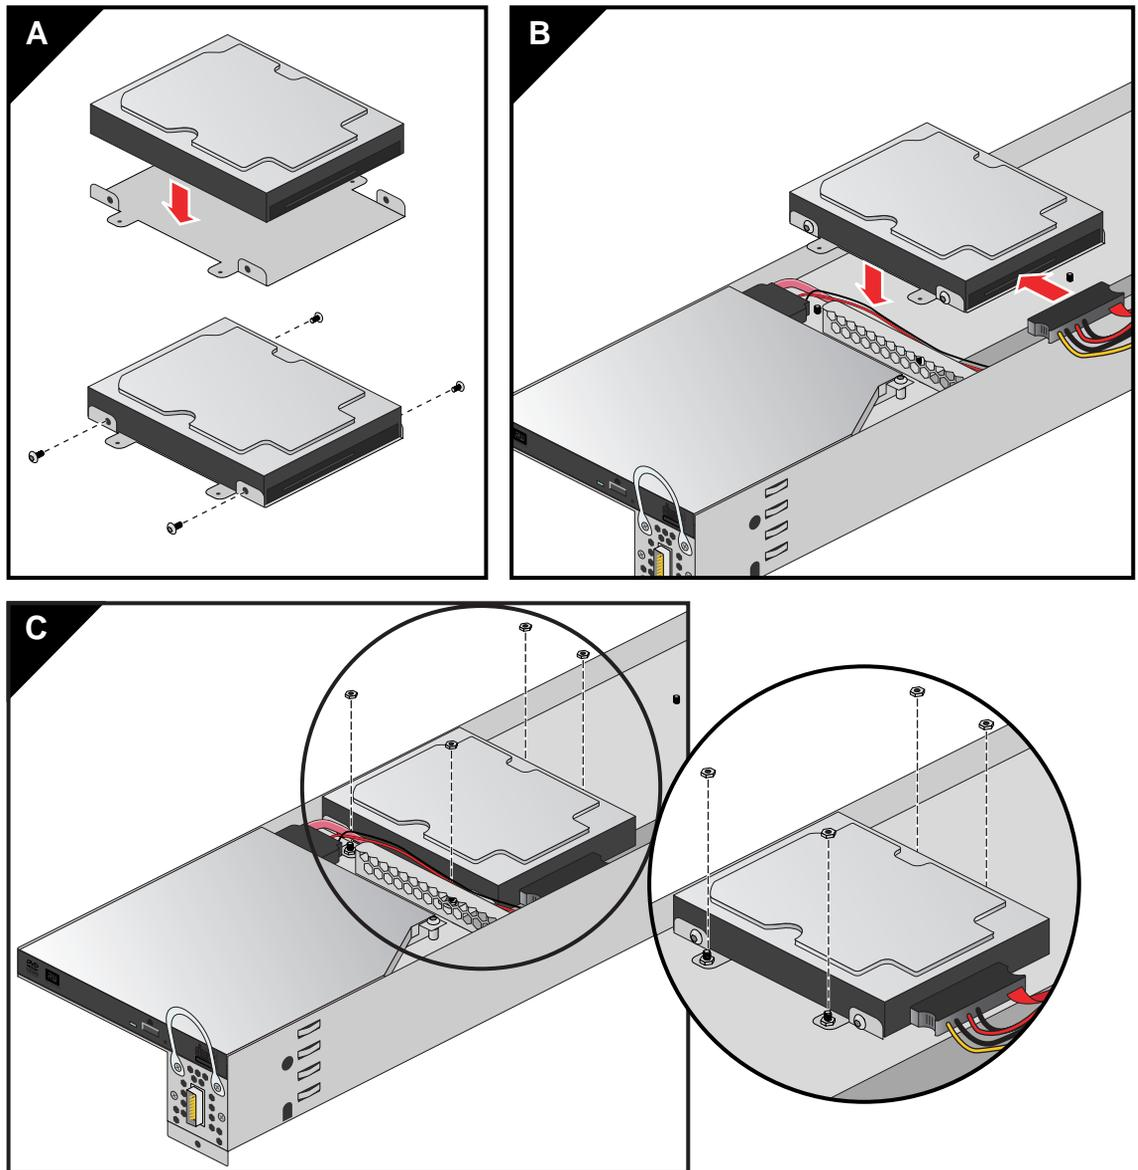

Figure 5-11 Install New Disk Drive Example
10. Align the four holes in the new drive's sled with the four screws on the system drive tray. Be sure that the new drive's power/data connector is facing towards the interior of the IRU where the drive interface cables are routed. See Figure 5-11 on page 69 for an example.